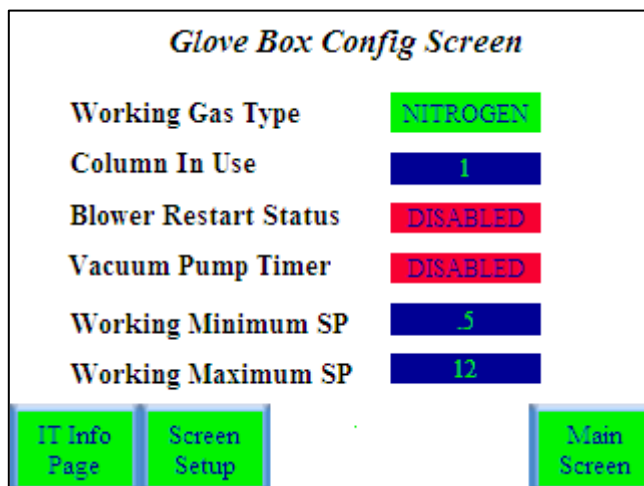

Figure 6 Glovebox Config Screen
- 1 Press the **System Config** button. The Glovebox Config Screen appears (Figure 6).